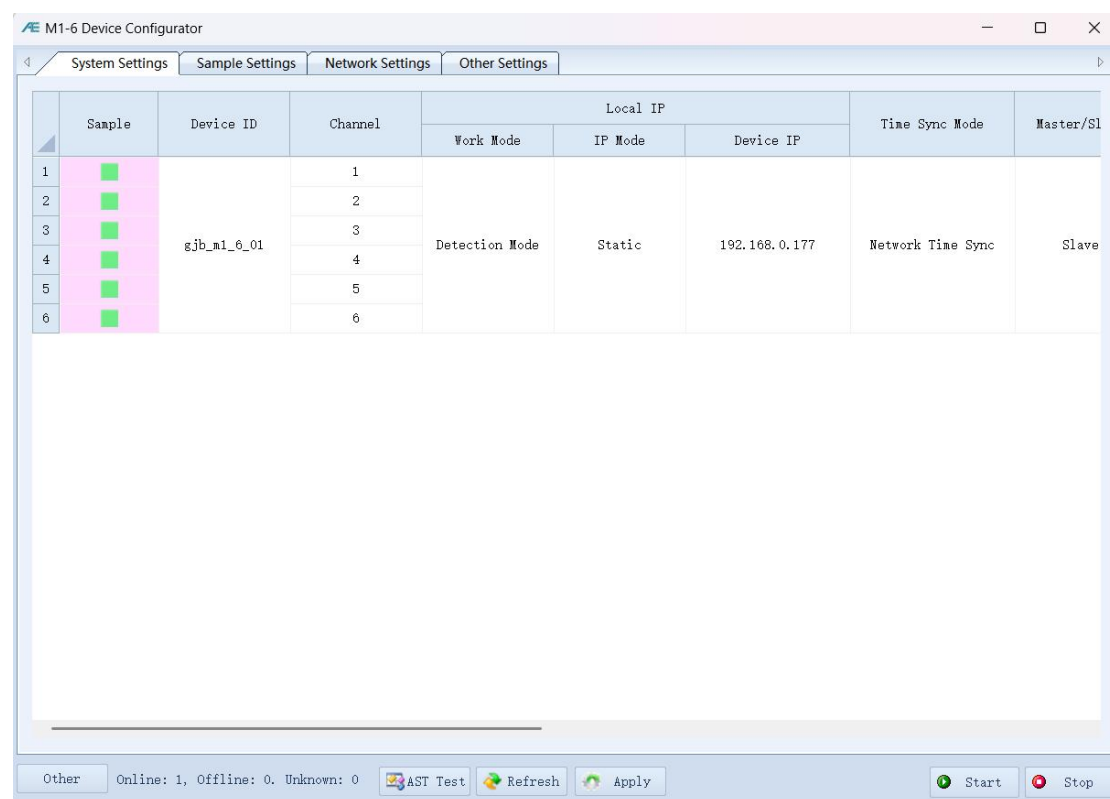
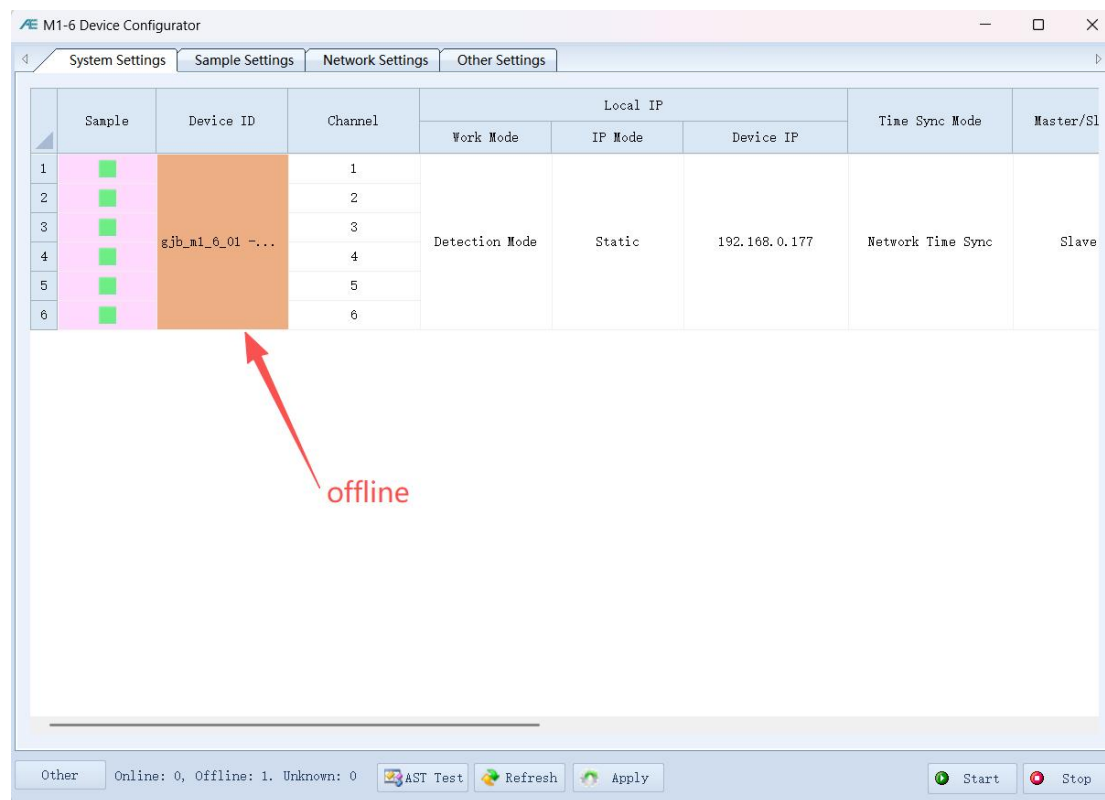

Fig. 4-1 Device is connected to configuration
Fig. 4-2 Device is offline
When the device is connected to the M1-6 Configurator software successfully, it will be like Figure 4-1. When the device is offline, the screen will be like Figure 4-2 with "Offline" indication next to the device ID.
① The configuration software interface of RAEM1-6 is shown in Figure 4-1. The system comprises four main sections: System Settings, Sample Settings, Network Settings, and Other Settings.
② The software will automatically detect and display the available RAEM1-6 devices. If the target RAEM1-6 cannot be detected or connected, check the power and the network settings of your computer. Please make sure the software and the
RAEM1-6 is in the same network. For Ethernet connections, see Chapter 5.1. For other methods like WiFi routers, troubleshoot according to Chapter 5.2. When the device loss connection from the software, it will be like Figure 4-2, the background of Device ID box will turn from white to orange.